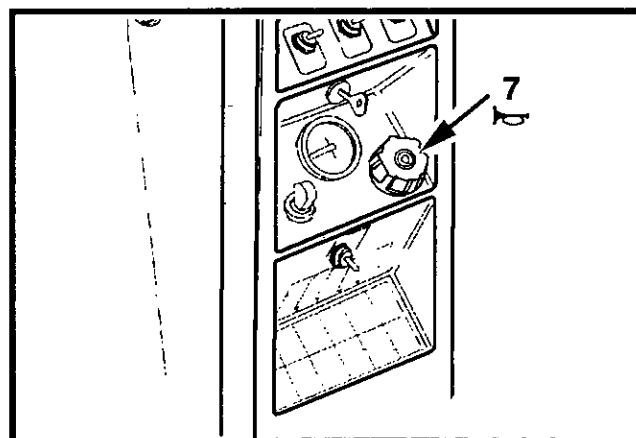

Figure 4-9 Horn Switch
8. Press to check the operation of the horn button (7, Figure 4-9) to verify that horn does operate.